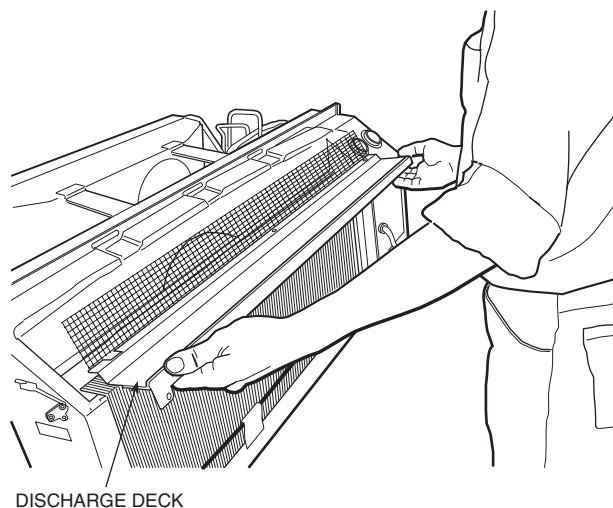

FIGURE 10 — ACCESSING HEATER PLATE ASSEMBLY
■ **ACCESSING THE HEATER ASSEMBLY** — Once the discharge deck assembly is removed, the Heater Assembly should now be accessible. See Figure 10.